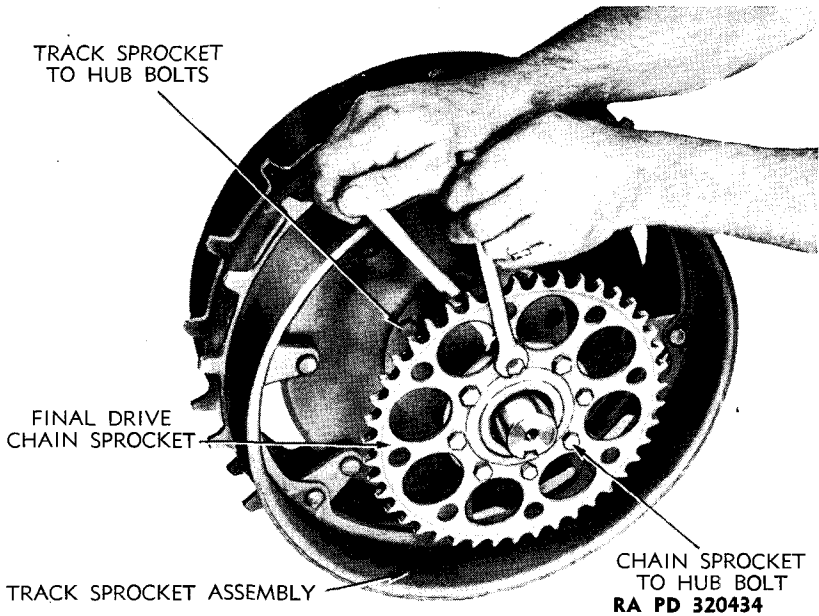

Figure 23 — Track and Chain Sprocket Assembly
a. Remove Chain Sprocket. Remove eight bolts, nuts, and lock washers holding final drive chain sprocket to track sprocket hub (fig. 23).
a. **Description.** The final drive chain is of the single-roller type requiring no lubrication. It is equipped with a connector link for removal or installation of chain. The chain is also equipped with a half-link which can be removed to compensate for wear. The connector link and half-link are secured by cotter pins. The final drive chain connects the final drive sprocket with the chain sprocket on track sprocket assembly (fig. 23). The tension adjustment of the final drive chain is made by moving track sprocket shaft brackets.